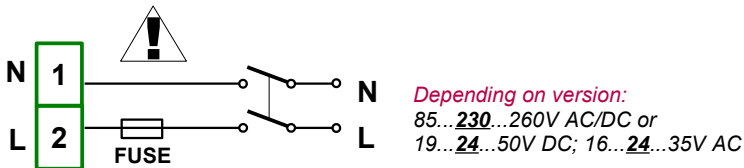

Fig. 4.6. Connection of power supply
- The unit is not equipped with an internal fuse or power supply circuit breaker. Because of this, an external time-delay cut-out fuse with a small nominal current value must be used (recommended bipolar, max. 2A) and a power supply circuit-breaker located near the unit (**Fig. 4.6**). In case of using a monopolar fuse it must be mounted on the active wire (L).